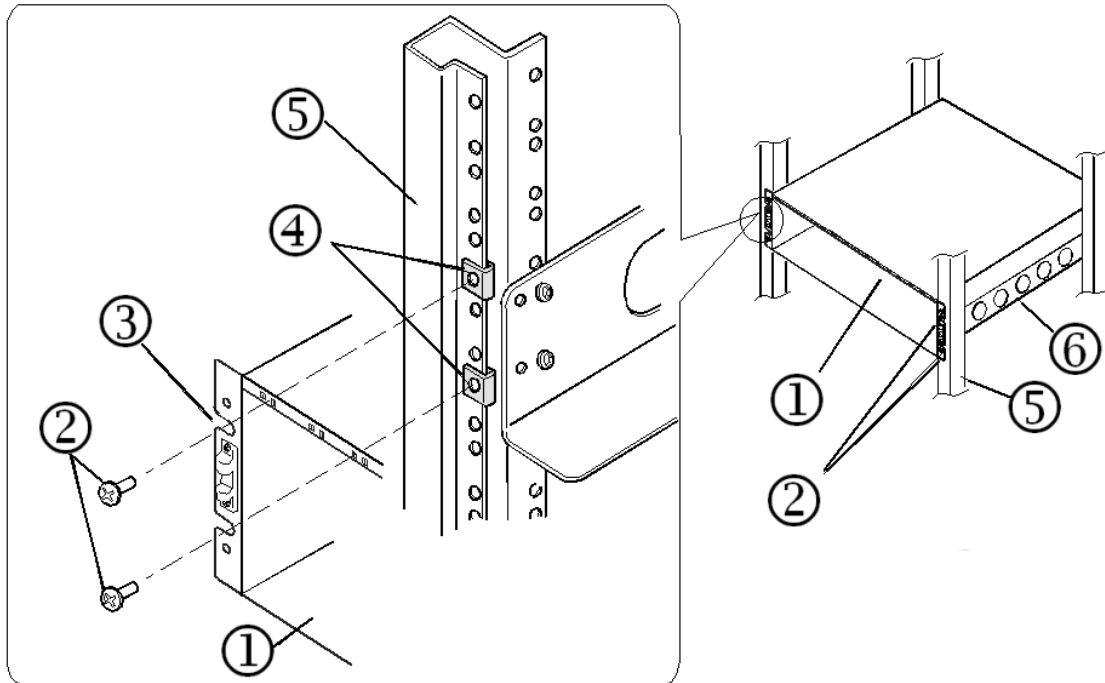

Figure 5-31: Fastening Front Side of the Array
1. As shown in Figure 5-31, fasten the array to the rack rails with four M5×10 binding screws provided with the rack.